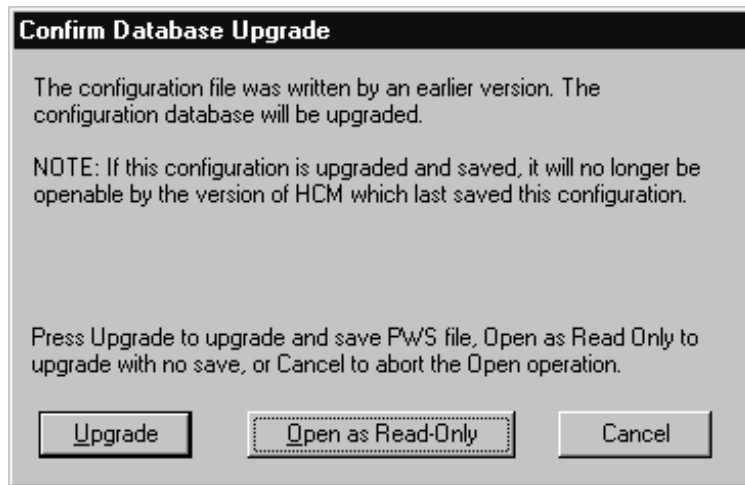

Figure 31. Confirm Database Upgrade
1. Open the pre-V1R7 configuration file (**File --> Open**). HCM prompts you to either upgrade or open the file as read-only (Figure 31 on page 74). It is recommended to use the **read-only** option, because this choice will keep a backup of the original configuration file. Or you can load a pre-V1R7 IODF into a new or existing, pre-V1R7 configuration file (**File --> IODF**). Depending on the size of the IODF, this process can take quite some time because HCD converts the loaded IODF data into the new version 5 format.